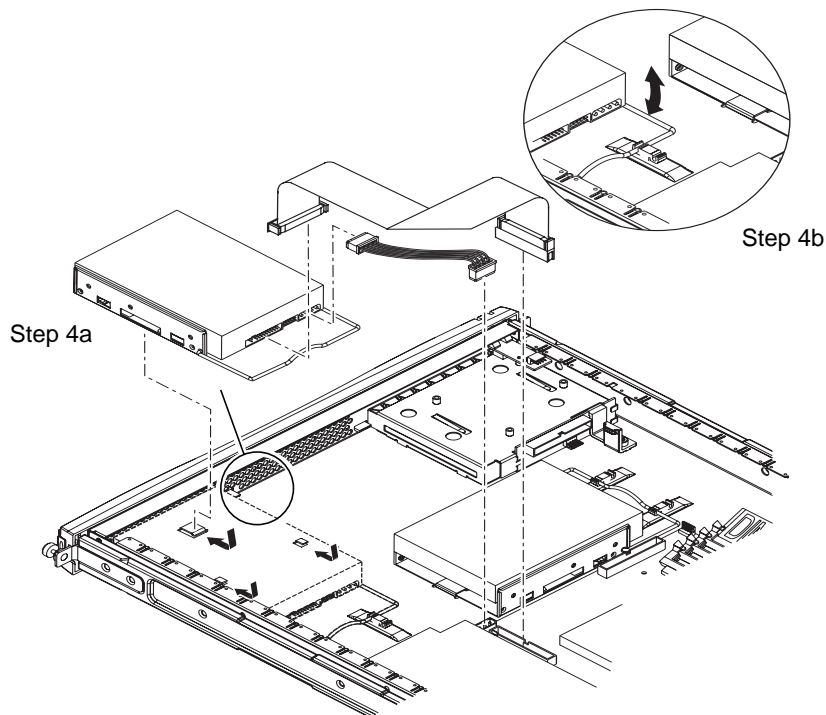

FIGURE 8-8 Installing a Hard Disk Drive
4. Insert and align the new hard disk drive (see FIGURE 8-8).
5. **Attach the power and data cables (see FIGURE 8-8).**